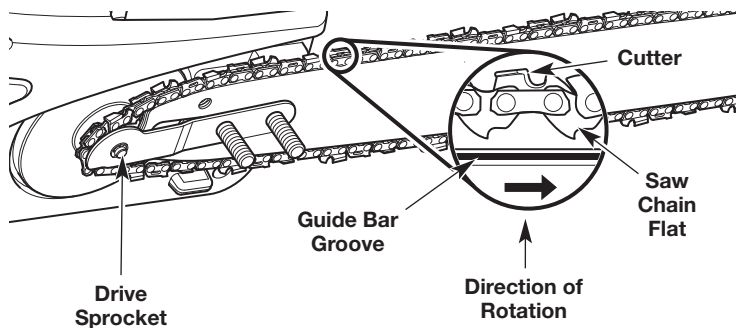

Fig. 29
- 5. Loop the saw chain around the drive sprocket and fit the saw chain into the guide bar groove (Fig. 29). Make sure the flats on the saw chain are in the grooves on the drive sprocket. Make sure the cutters point in the correct direction of rotation (Fig. 29).